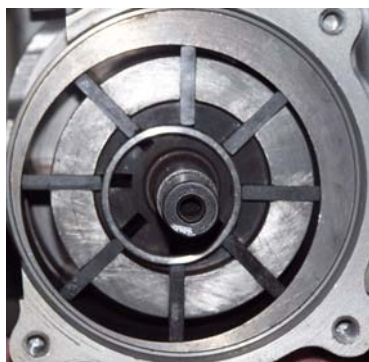

Figure 3
For us to offer a smoother and faster delivery we added (2) blades to the rotor assembly totaling (8) blades in all (see figure 3).